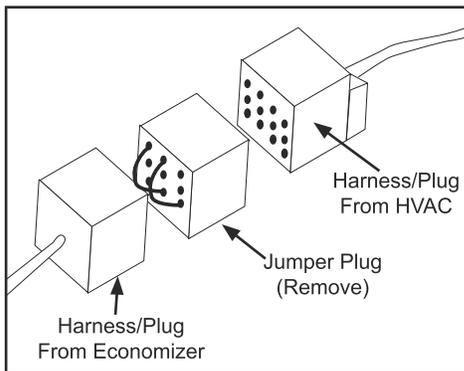

Fig. 5 — Harness/Plug from Two-Position Damper (PL6)
11. Remove the Jumper Plug shipped attached to the Economizer Harness in the HVAC unit per Fig. 5. **DO NOT DISCARD.** Connect the plug from the Damper Actuator Assembly to the Economizer Plug in the HVAC unit. Set the Jumper Plug aside in case it is determined at a later date that the 2-Position Damper is no longer required, at which time the Jumper Plug can be re-installed.